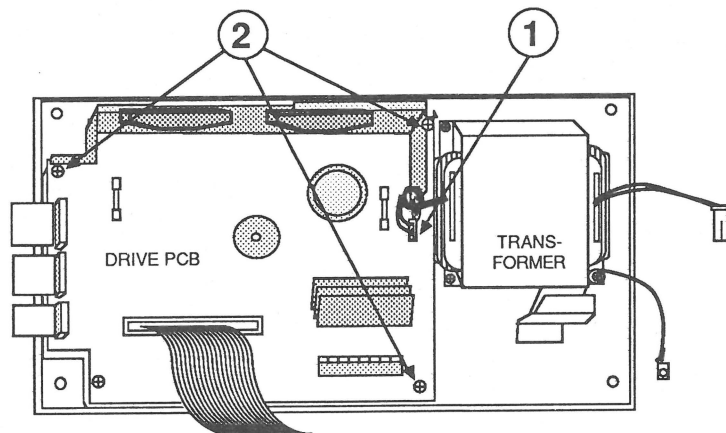

FIGURE 24
2. Disconnect the cable from the transformer (Figure 24, #1).
3. Remove the three screws from the drive PCB (Figure 24, #2).
2. Replace the three screws (Figure 24, #2).
3. Connect the cable from the transformer (Figure 24, #1).